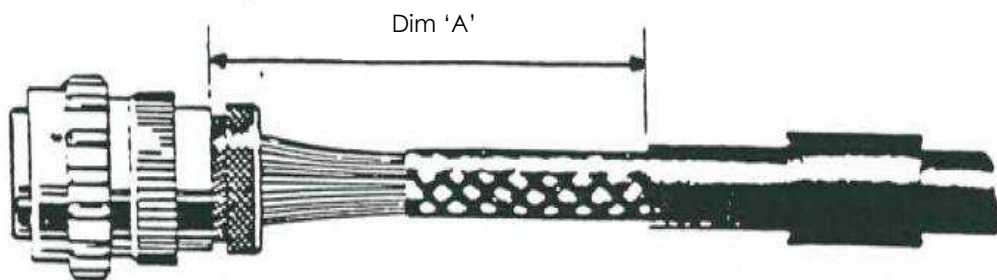

Figure 3 Cable jacket removal
- 5.5. With the major keyway in the correct position, secure the adaptor to the connector using the appropriate mating half and tighten to the specified torque value. Refer to ELE-3COP-452. Remove the cable jacket only, according to dimensions in Figure 3 and Table 2.